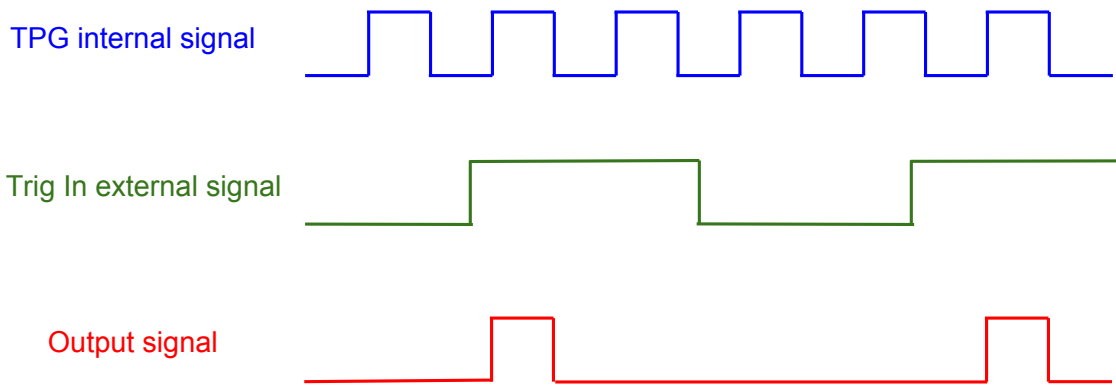

Figure 5.6.: TPG `Trig IN` external mode signal.
- the output generated with the **Trig IN** is a single pulse for a rising signal, as shown in figure 5.6.